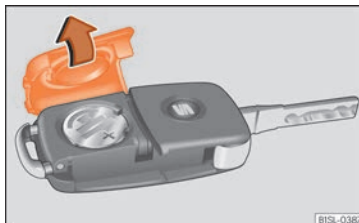

Fig. 87 Vehicle key: battery compartment cover.
- Remove the cover from the back of the vehicle key » **Fig. 87** in the direction of the arrow » ❶.
- Fit the cover as shown » **Fig. 87**, pressing it onto the vehicle key casing in the opposite direction to that shown by the arrow until it clicks into place.